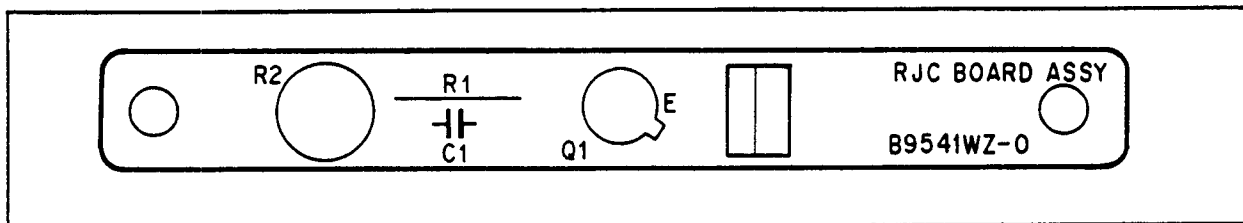

Figure 10-2.
- 2) A special jig is required for adjusting the reference junction compensation circuit, so on-site readjustment is difficult. Therefore, if the reference junction compensation circuit fails, replace the reference junction compensation PCB (RJC BOARD ASSY: B9541WZ-0) shown in Figure 10-2 with new one.